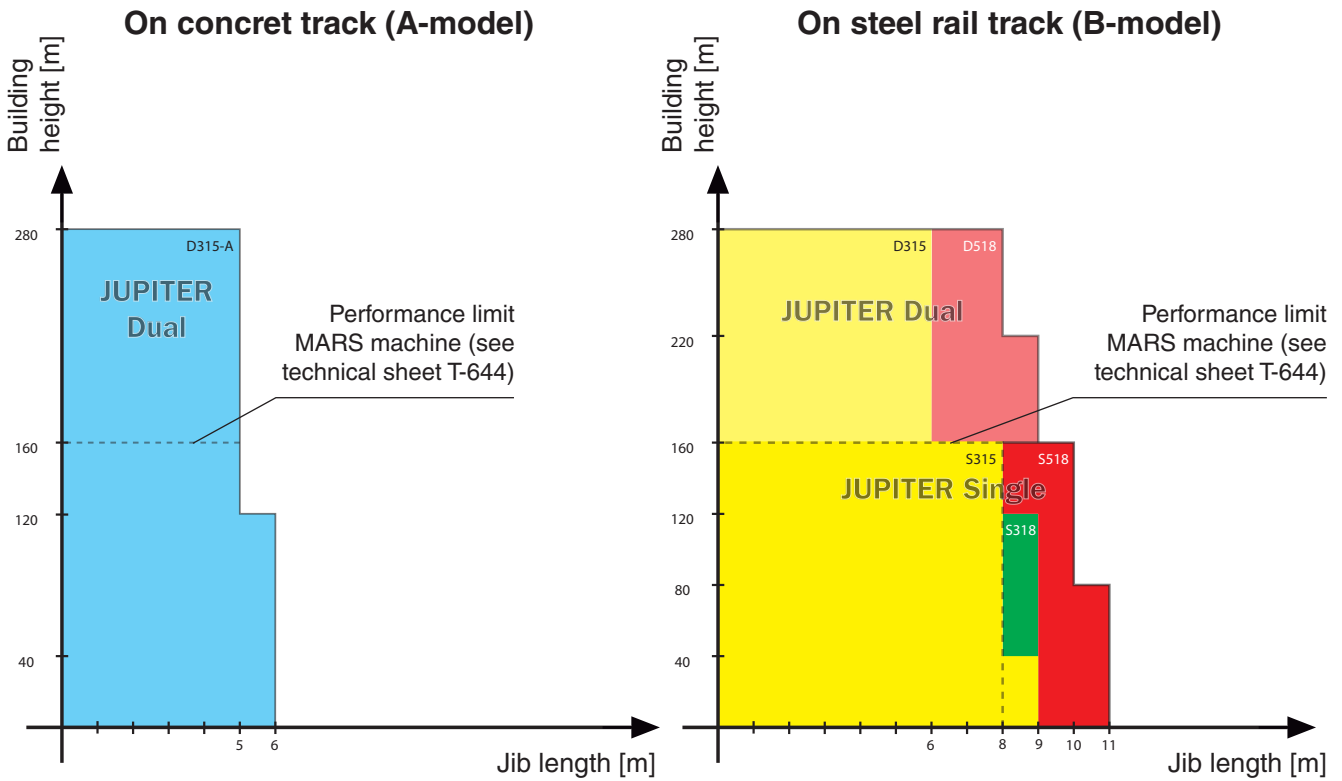

Fig. 2. - JUPITER - Standard range
*) depending on jib length (see Fig. 2).